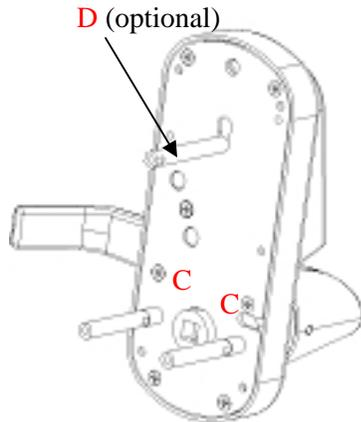

Fig 3
Screw in and tighten the two fastener extensions (C) into the front lock fastener posts located on both side of the center hub. Attach and tighten the upper fastener extension (D) if needed (Fig 3). Note: The upper fastener extension (D) is optional.